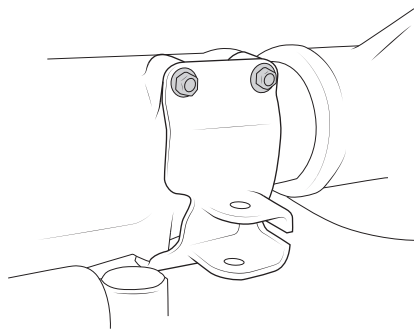

Figure 17
- A. Remove the two upper bolts from the steering dampener bracket at the axle (fig. 17).